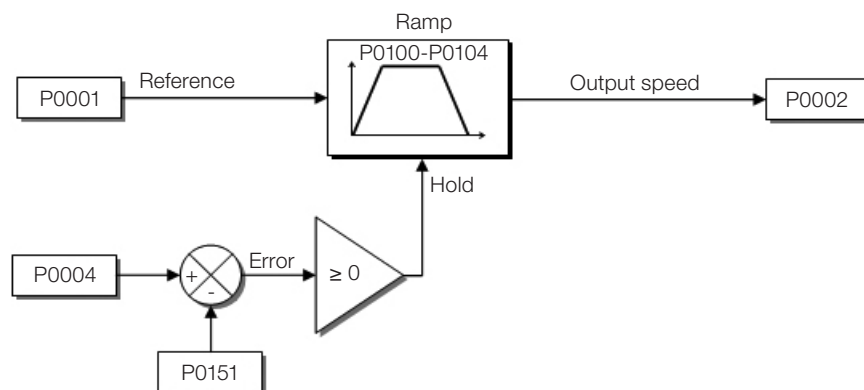
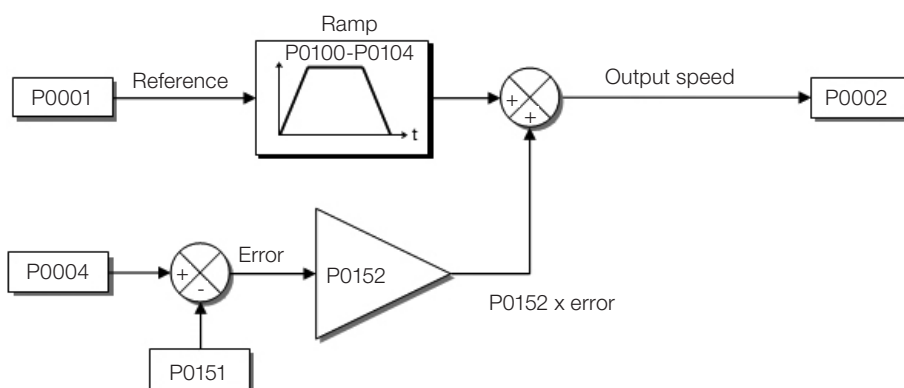
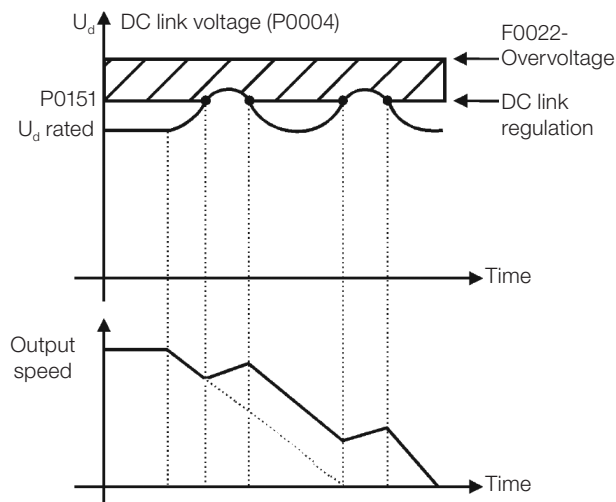

Figure 11.2: Block diagram DC link voltage limitation – Ramp Hold (P0152 = 0 or P0152 = 2)
Figure 11.4: Block diagram of DC link voltage limitation – Accelerate Ramp ($P0152 = 1$ or $P0152 = 3$)
Figure 11.5: Example graph of the DC link voltage limitation – Accelerate Ramp ($P0152 = 1$ or $P0152 = 3$)
- Actuation: the DC link voltage is measured (P0004) and compared to the value set in P0151; the difference between those signals (error) is multiplied by the proportional gain (P0152); the result is then added to the ramp output, as per Figure 11.4: Block diagram of DC link voltage limitation – Accelerate Ramp \(P0152 = 1 or P0152 = 3\) on page 11-6 and Figure 11.5: Example graph of the DC link voltage limitation – Accelerate Ramp \(P0152 = 1 or P0152 = 3\) on page 11-7.
Figure 11.2: Block diagram DC link voltage limitation – Ramp Hold (P0152 = 0 or P0152 = 2) on page 11-5 to Figure 11.5: Example graph of the DC link voltage limitation – Accelerate Ramp (P0152 = 1 or P0152 = 3) on page 11-7 show the block diagrams and example graphs.